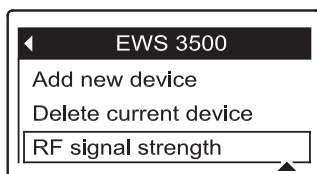

FIG. 51
3. Press the DOWN (▼) button to scroll through the menu options until **RF signal strength** is highlighted in a box (See Figure 51).